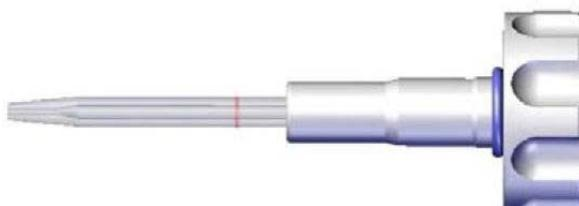

Figure 6-6. Torch assembly - center tube
3. Check that the four O-rings in the center tube holder are not damaged. Fully insert the center tube into the plastic center tube holder. See Figure 6-6.